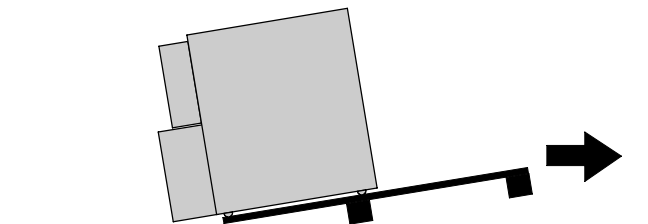

Figure 10. Removing the Pallet
10. With the cabinet supported, slowly pull the pallet away from the cabinet (see Figure 10).